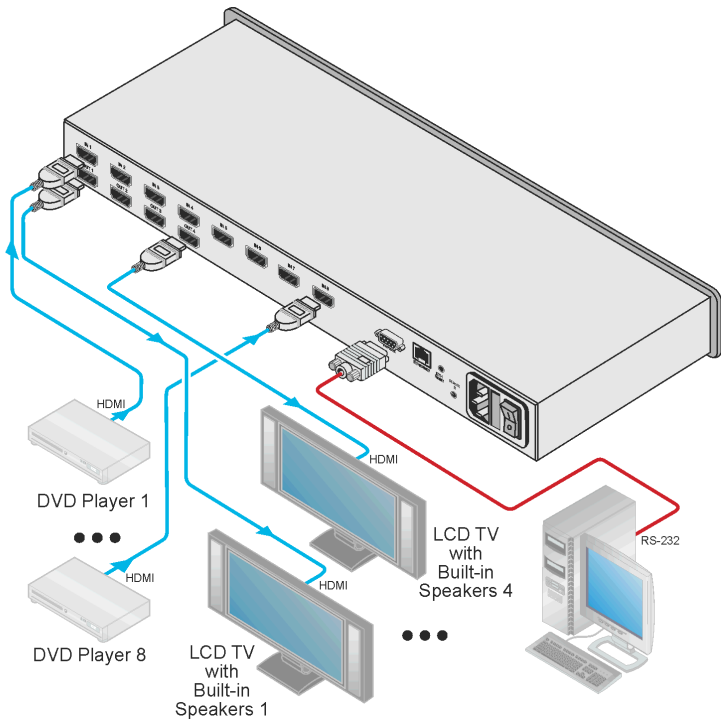

Figure 3: Connecting the VS-84HN 8x4 HDMI Matrix Switcher
To connect the VS-84HN 8x4 HDMI Matrix Switcher as illustrated in the example in Figure 3:
4. Connect the device to the mains electricity (not shown in Figure 3).